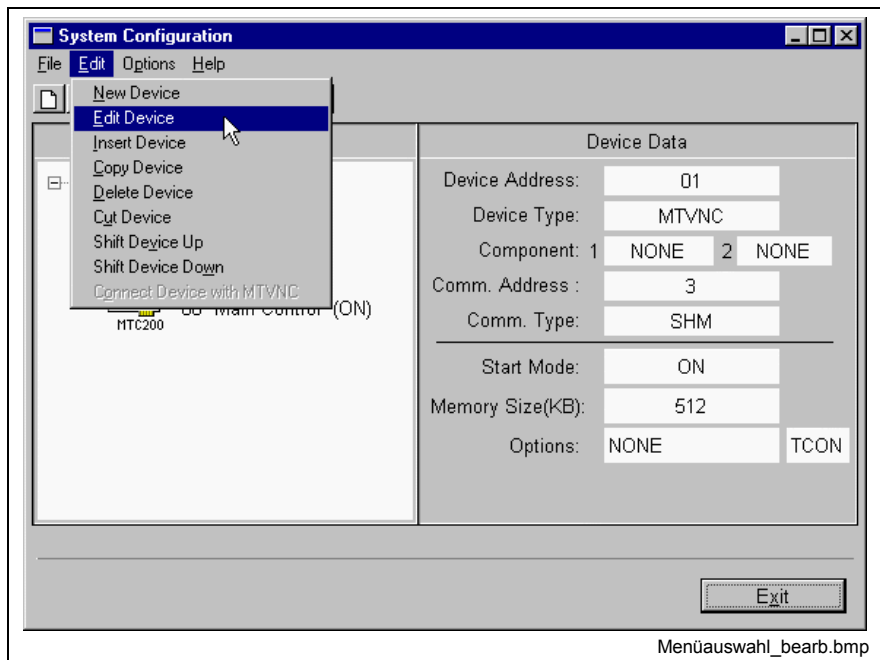

Fig. 3-8: Menu selection
- Fig. 3-8: Menu selection 3-9